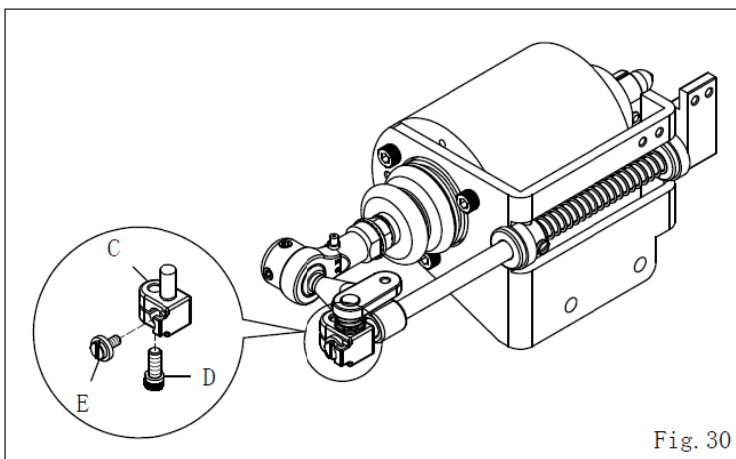

Fig. 30
调整时，可放松连结滑块(C)上的螺丝(D)，再用螺丝刀旋转螺丝(E)，微调活动刀片左右位置至正确点后，再锁紧螺丝(D)。(图30)
When you would like to adjust the right & left position of Moving Knife. First, please loose the screw (D) of Connecting Block (C), to turn the screw (E) by screwdriver for micro adjusting the correct right & left position of Moving Knife., then to locked the screw (D) down. (Fig. 30)